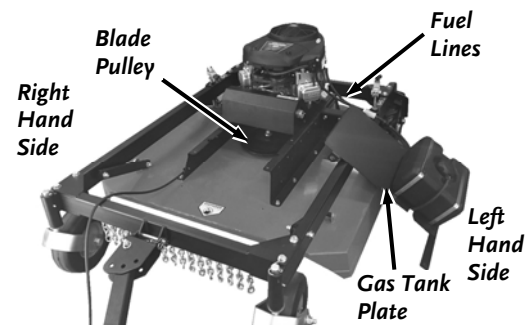

Figure 34
5. Carefully lift the Gas Tank Plate and position it on the Fuel Line side of the machine (left hand side) (**Figure 34**).